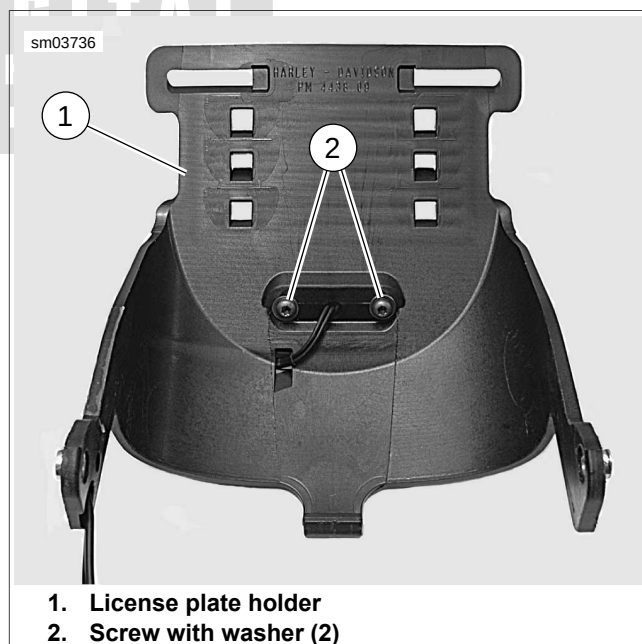

**Figure 6-57. License Plate Holder and Lamp Harness Mounting: XL 883N, XL 1200X (HDI)**
7. See Figure 6-57. Remove license plate lamp harness (3) from harness bracket (1) and three harness clips (2). Feed harness and connector in through hole in rear fender.
8. See Figure 6-57. Install license plate lamp harness (3) into three clips (2) in fender bracket. Feed harness and connector through feedthrough hole (5) in fender. Press harness into harness bracket (1).